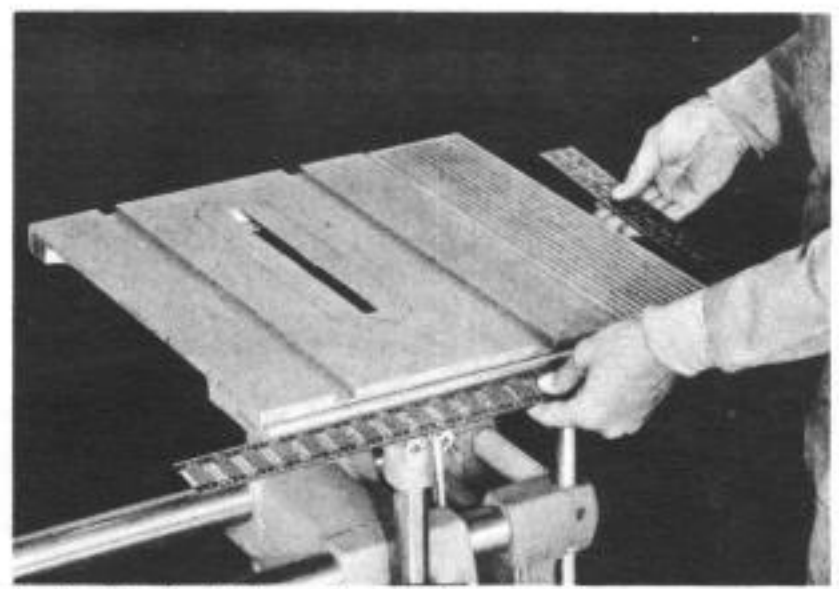

Fig. 10 Extension table must line up with saw table
5.... THE EXTENSION TABLE MUST BE PARALLEL TO THE SAW TABLE AND ALIGNED WITH IT. Check by setting the extension table to the height of the saw table and butting them against each other. Place a straight edge across front edges (Fig. 10). If tables do not butt flush and if front edges are not in line, adjustment is required.